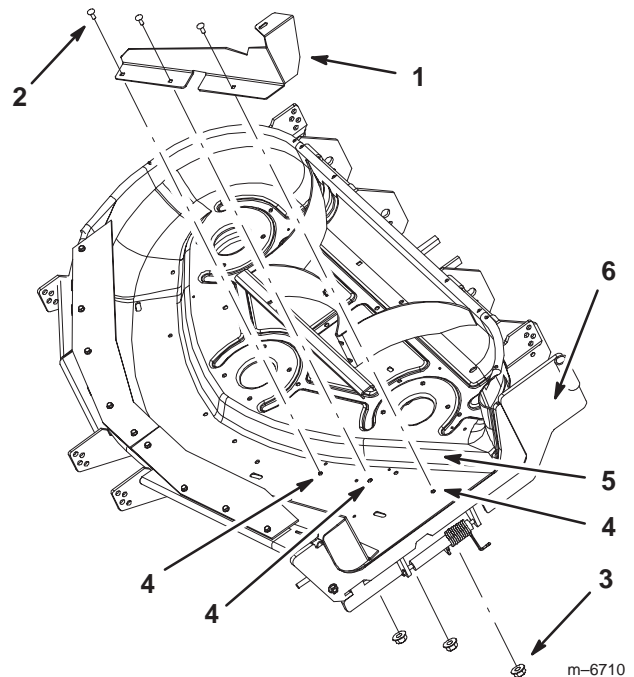

Figure 8
6. Install the rear tunnel baffle with 3 carriage bolts (5/16 x 5/8 inch) and 3 flange nuts (5/16 inch) (Fig. 8).